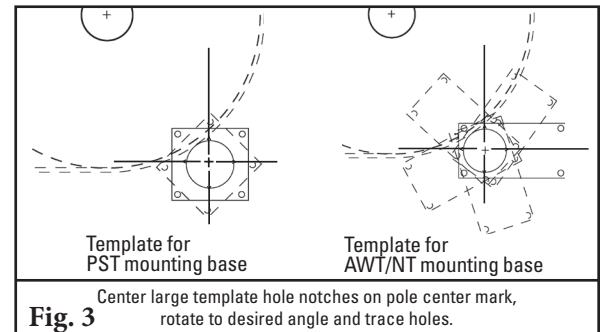

Fig. 3
3. **Mark and cut the mounting base holes.** Using the mounting base template provided in the instruction packet, position the large pole hole of the template on the chute with the hole notches aligned with the layout lines. Trace the pole hole and mounting holes (Fig. 3). Each base can be mounted in any position 360° around the pole as long as the pole's center point does not change. Cut the holes on both sides of the chute.